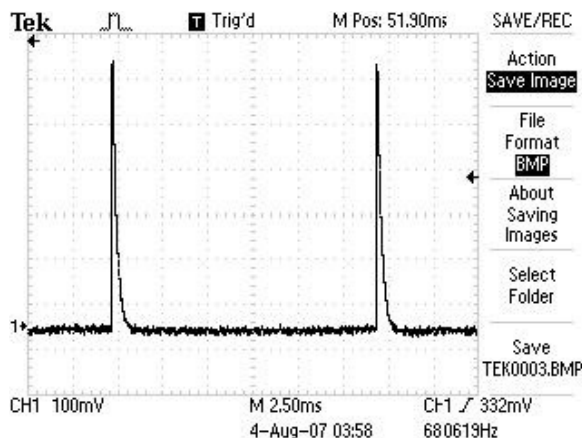

Figure 2: Time Base adjusted to have at least 2 pulses
5. Assuming you know the repetition rate of your source, adjust the "time base" to display at least two pulses (Check Figure 2 below). For a source pulsed at 10 Hz, set the time base to 20 msec/div.